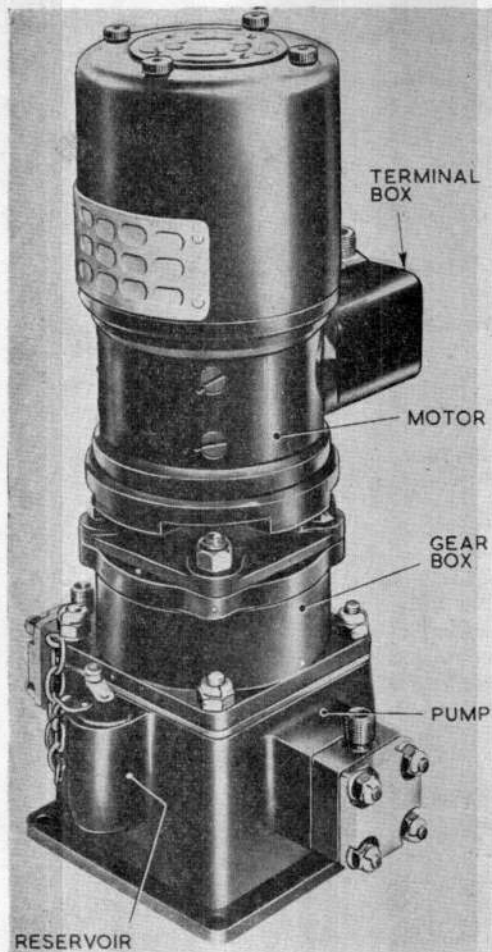

Fig. 1. General view of pump
5. The forged light alloy pump body (*fig. 1*) carries two horizontally opposed cylinders